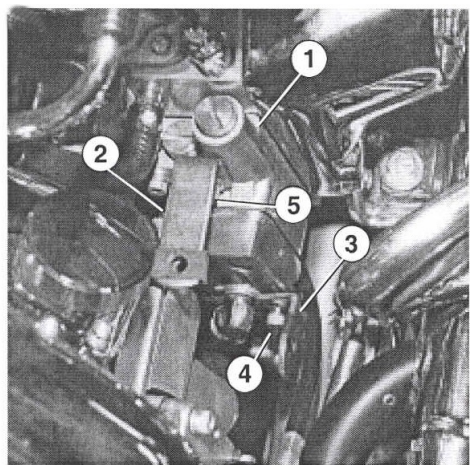
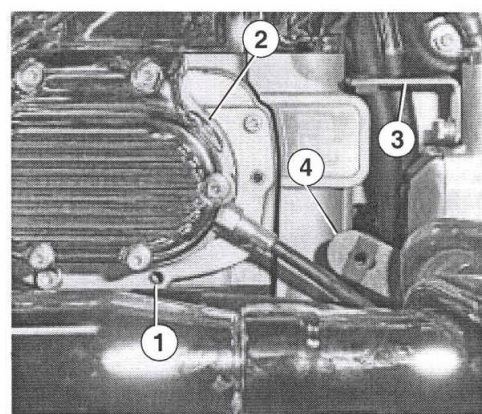

Figure 2
Figure 3
3. See Figure 2. Remove stock screw (4) and washer located in lower, outside position on oil pump. Save washer. Discard screw.
4. Place stock washer, removed in previous step, onto end of socket screw (4), assembled onto lower bracket (3) in step 2. Assemble bracket (3) to lower position on oil pump (1). Tighten socket screw (4) just enough to hold bracket in place.
5. Loosen upper socket screw (5) and washer on oil pump. Slide slotted end of upper bracket into place on screw (5) between washer and oil pump. Tighten screw (5) to 90-120 in-lbs.
6. See Figure 3. Remove socket head screw and washer on transmission (2) from location (1) indicated in Figure 3. Locate 3/16 in. spacer from kit. Place 3/16 in. spacer over end of screw. Begin threading screw into position (1), but leave very loose. Slide cover into position, with slotted tab of cover positioned between washer and spacer. Tighten finger tight.
3. Insert screw and washer removed in Step 2, through upper hole in lower mounting bracket. Insert screw into hole from which it was removed in step 2 and tighten screws. (See Figure 2 for bracket orientation.)
6. **ST with Stock Exhaust.** See Figure 3. Remove socket head screw and washer on transmission (2) from location (1). Locate 3/16 in. spacer from kit. Place spacer over end of screw. Begin threading screw into position (1), but leave very loose. Slide cover into position, with slotted tab on oil pump cover positioned between washer and spacer on screw.
6. **ST with Stock Exhaust.** See Figure 3. Remove socket head screw and washer on transmission (2) from location (1) indicated in Figure 3. Locate 3/16 in. spacer from kit. Place 3/16 in. spacer over end of screw. Begin threading screw into position (1), but leave very loose. Slide cover into position, with slotted tab of cover positioned between washer and spacer. Tighten finger tight.